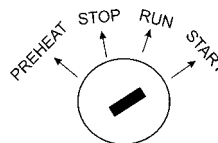

Figure 45. Ignition Switch (Run)
8. If the unit has an ignition switch (Figure 45), turn the key to the right, until the engine starts. Then release the key to 'Run'.